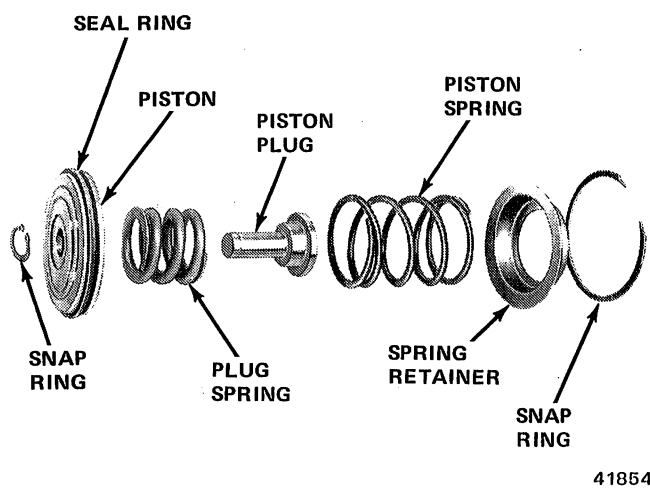

Fig. 2C-93 Rear Servo Assembly
- (1) Compress piston plug spring and remove snap ring.
- (2) Remove snap ring, piston plug, and plug spring (fig. 2C-93).